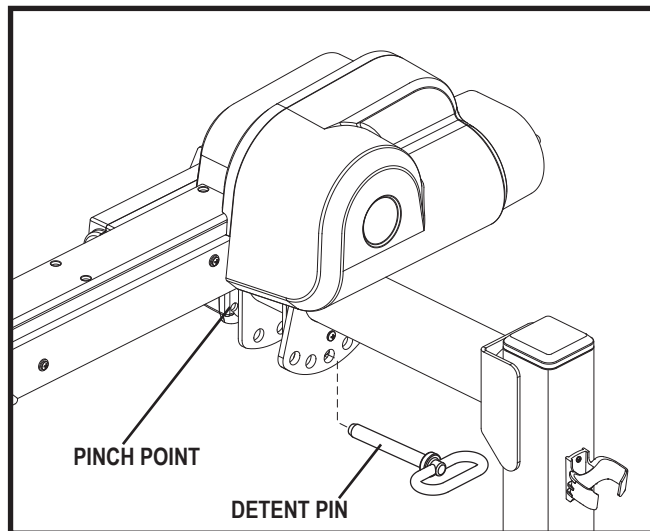

Figure 4. Securing the Boom Arm
**NOTE:** The angle of the boom arm can be adjusted to accommodate certain height limitations. See figure 4.
2. Remove the detent pin located between the boom arm and the upper post. Guide the boom arm upward or downward to the desired position. **See figure 4.**
3. Reinsert the detent pin into the top of the upper post to secure the boom arm in place. **See figure 4.**